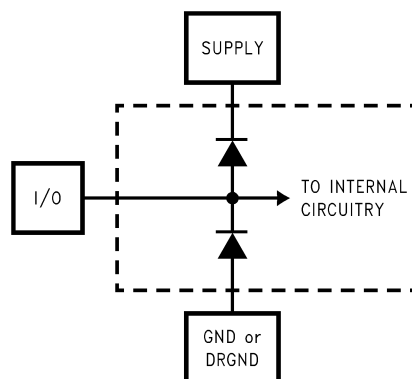

Figure 1.
- (1) The inputs are protected as shown below. Input voltage magnitudes above V_A or below GND will not damage this device, provided current is limited per ⁽¹⁾. However, errors in the A/D conversion can occur if the input goes above V_A or below GND by more than 100 mV. As an example, if V_A is 4.75V, the full-scale input voltage must be $\leq 4.85V$ to ensure accurate conversions. See Figure 1
- (2) To ensure accuracy, it is required that $|V_A - V_D| \leq 100\text{ mV}$ and separate bypass capacitors are used at each power supply pin.
- (3) With the test condition for $V_{REF} = +2.0V$ (4V_{P-P} differential input), the 12-bit LSB is 977 μV .
- (4) Typical figures are at $T_A = T_J = 25^\circ\text{C}$, and represent most likely parametric norms. Test limits are specified to TI's AOQL (Average Outgoing Quality Level).
- (5) Integral Non Linearity is defined as the deviation of the analog value, expressed in LSBs, from the straight line that passes through positive and negative full-scale.
- (6) Optimum performance will be obtained by keeping the reference input in the 1.8V to 2.2V range. The LM4051CIM3-ADJ (SOT-23 package) is recommended for this application.
- (2) To ensure accuracy, it is required that $|V_A - V_D| \leq 100$ mV and separate bypass capacitors are used at each power supply pin.
- (4) Typical figures are at $T_A = T_J = 25^\circ C$, and represent most likely parametric norms. Test limits are specified to TI's AOQL (Average Outgoing Quality Level).
- (5) Typical figures are at $T_A = T_J = 25^\circ C$, and represent most likely parametric norms. Test limits are specified to TI's AOQL (Average Outgoing Quality Level).
- (6) I_{DR} is the current consumed by the switching of the output drivers and is primarily determined by load capacitance on the output pins, the supply voltage, V_{DR} , and the rate at which the outputs are switching (which is signal dependent). $I_{DR} = V_{DR}(C_0 \times f_0 + C_1 \times f_1 + \dots C_{11} \times f_{11})$ where V_{DR} is the output driver power supply voltage, C_n is total capacitance on the output pin, and f_n is the average frequency at which that pin is toggling.
- (7) Excludes I_{DR} . See previous note.
- (1) The inputs are protected as shown below. Input voltage magnitudes above V_A or below GND will not damage this device, provided current is limited per ⁰. However, errors in the A/D conversion can occur if the input goes above V_A or below GND by more than 100 mV. As an example, if V_A is 4.75V, the full-scale input voltage must be $\leq 4.85V$ to ensure accurate conversions. See Figure 1
- (4) Timing specifications are tested at TTL logic levels, $V_{IL} = 0.4V$ for a falling edge and $V_{IH} = 2.4V$ for a rising edge.